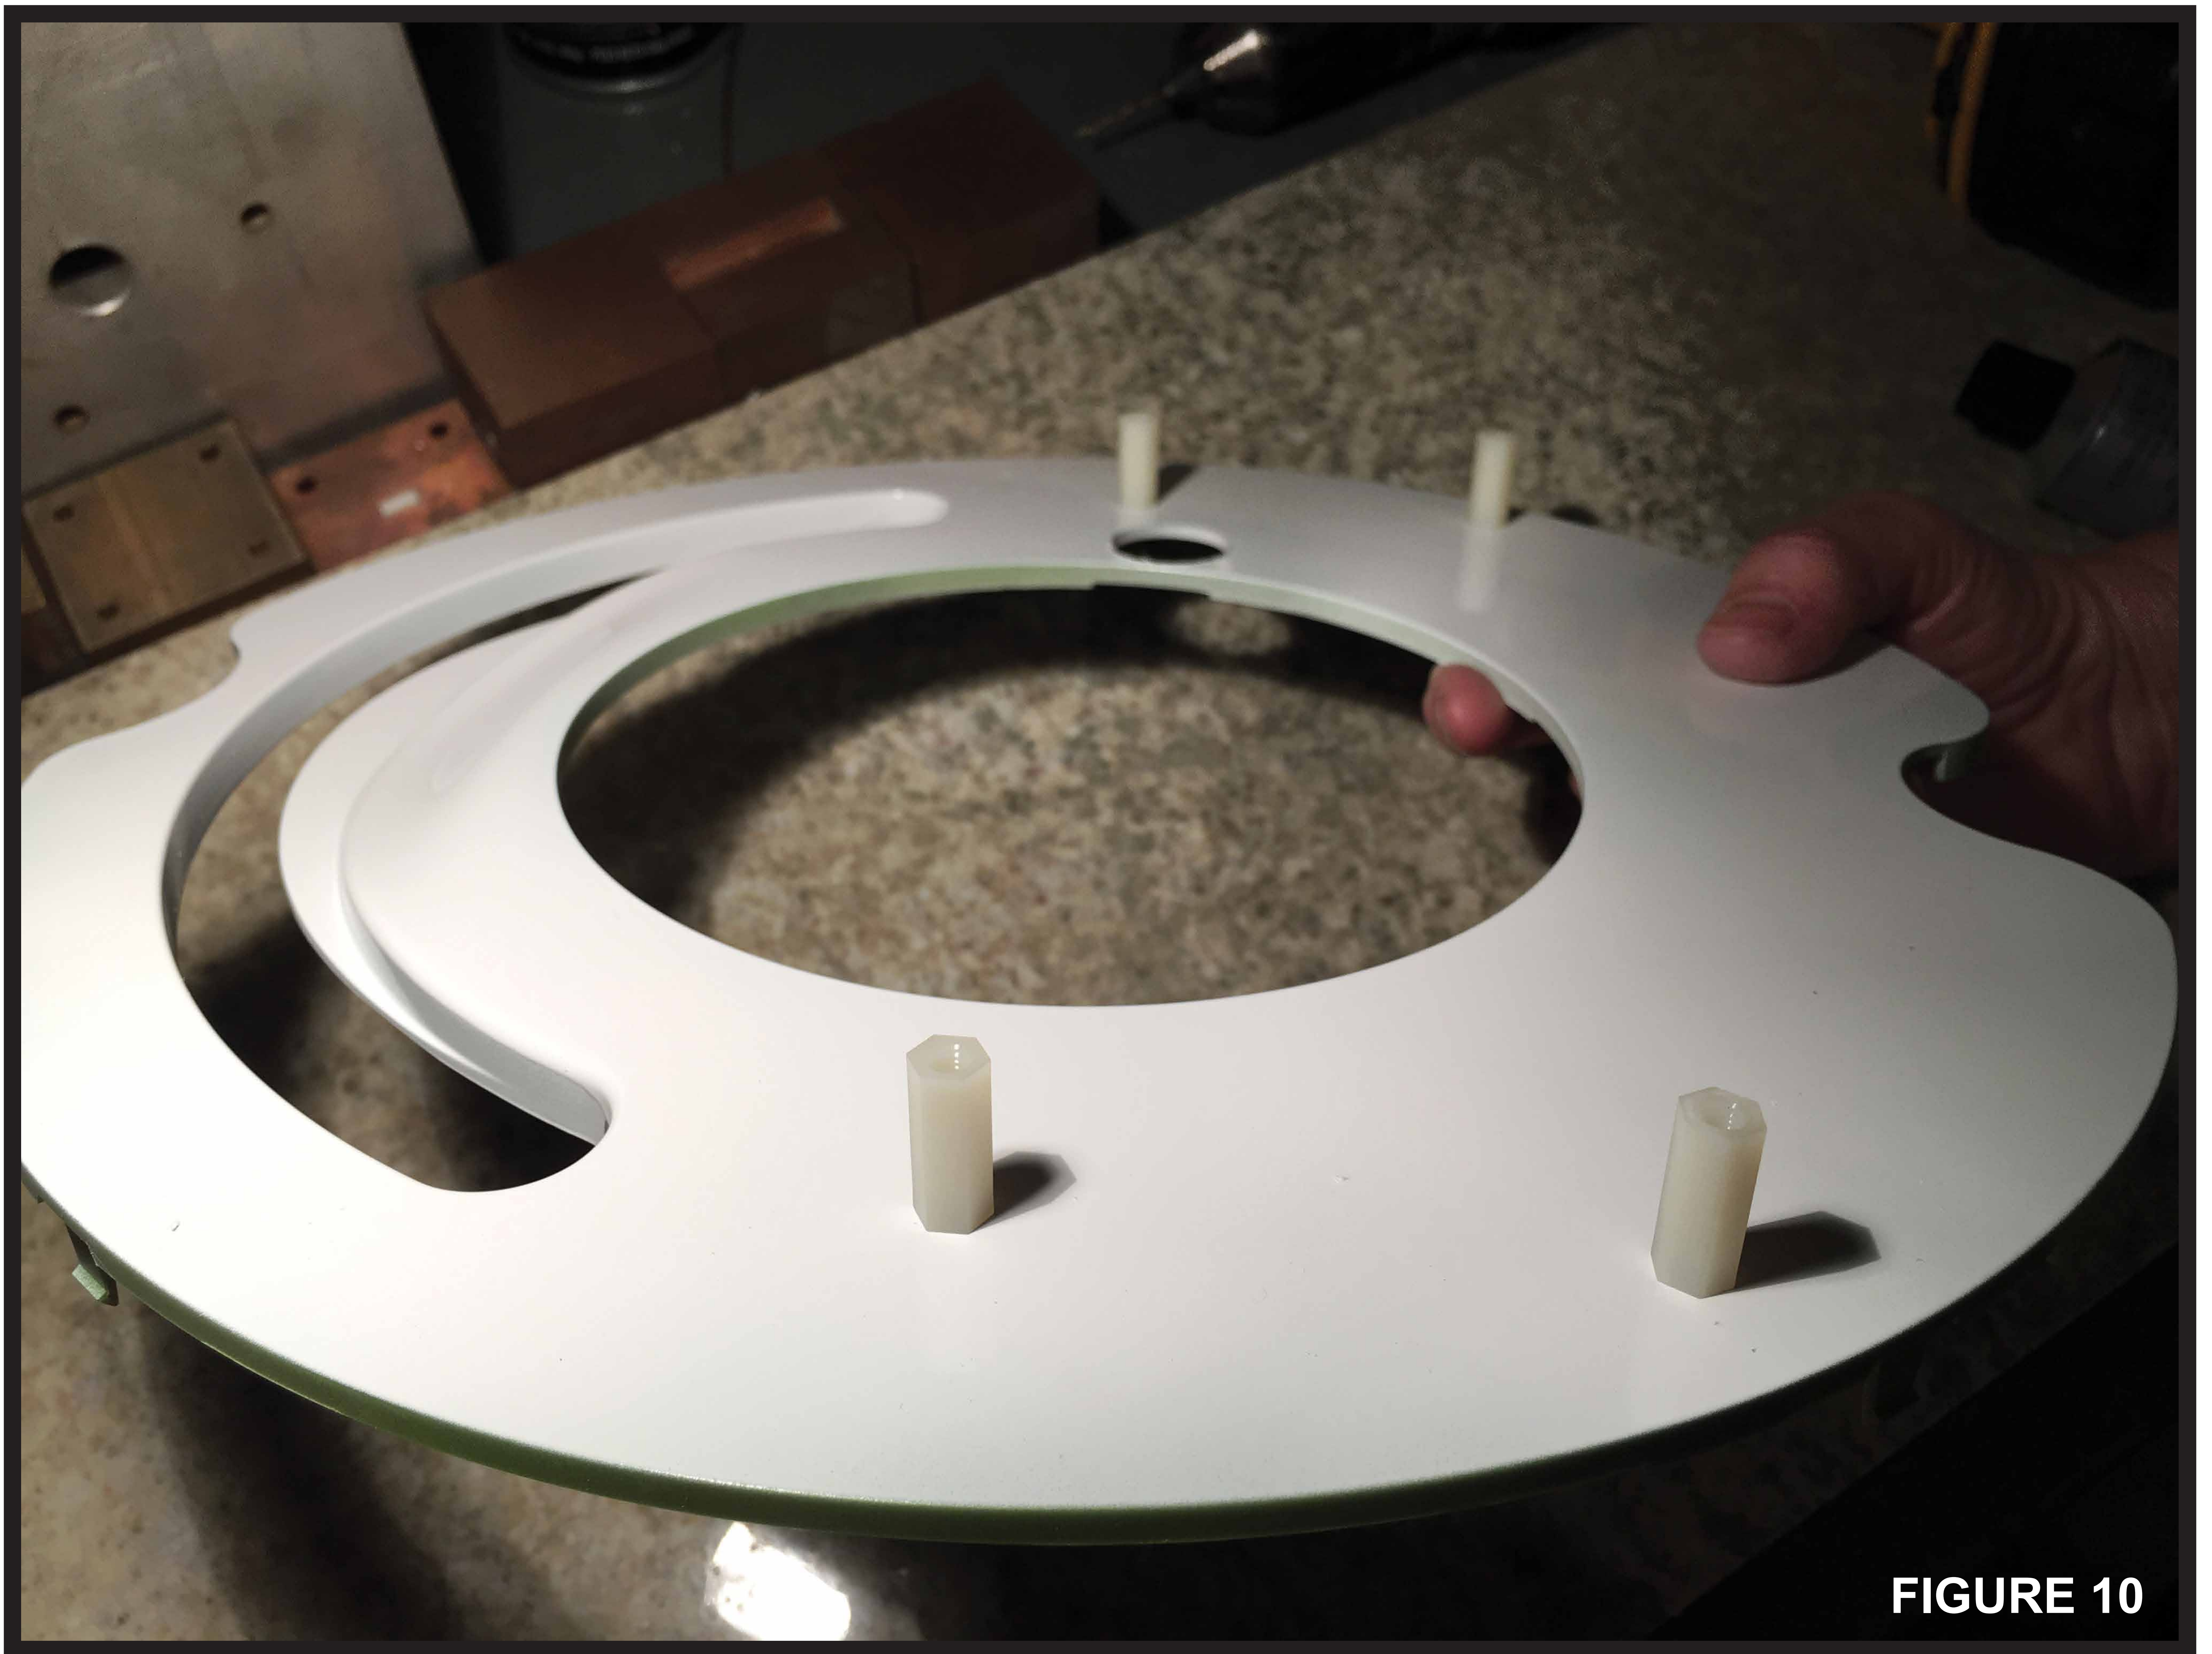

FIGURE 10
- 12. After spray painting the Create 2 white (avoiding sensors or by keeping them covered with tape) take the top cover and install the four stand-offs as shown. These raise the top plate above the Create 2 top cover by about one inch to allow wires to pass beneath and to allow room to push the ON/OFF switch on top of the robot. Note that the stand-off hole locations are marked on the top cover plate. Also, the hole for the communications cable between the Arduino computer and the Create 2 must be drilled out (see this hole at 12-O'clock near one of the stand-offs in Figure 10).**